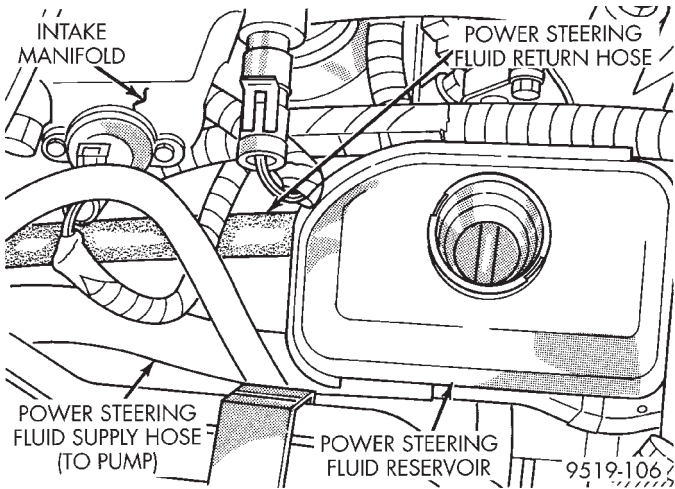

Fig. 23 Power Steering Fluid Supply Hose At Reservoir
(2) Remove hose clamp, attaching power steering fluid supply hose to the power steering fluid reservoir. Then remove power steering fluid supply hose from power steering fluid reservoir (Fig. 23).
(3) Raise vehicle.
(4) Remove hose clamp, attaching power steering fluid supply hose to power steering pump. Then
(3) Install power steering fluid supply hose on power steering fluid reservoir fitting (Fig. 23). Install